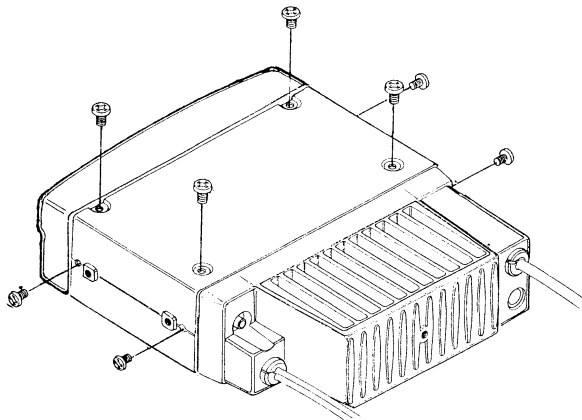

Figure 1.
- Referring to figure 1, remove the eight screws from the top cover to expose the solder side of the Main Unit.